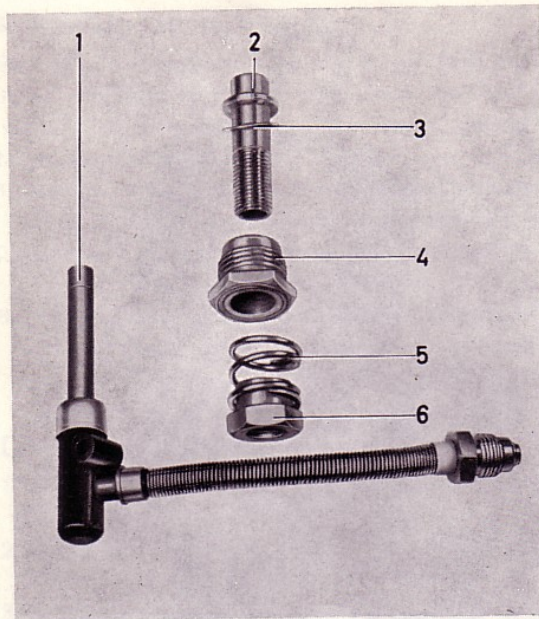

Fig. 113 Jet dismantled
4. Fit the spring, adjusting nut and jet, see Fig. 113. Connect the link.